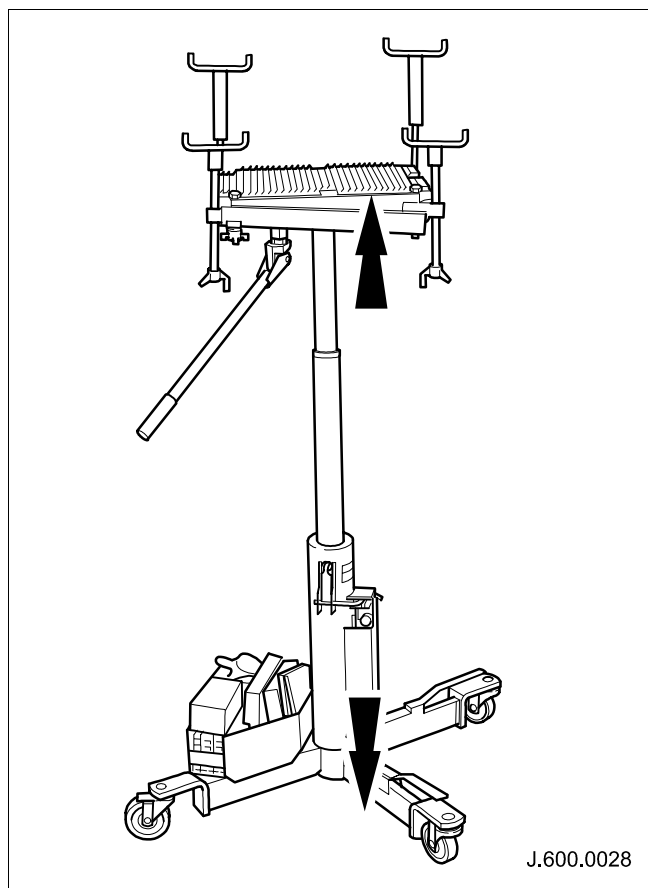

Fig. 1
- 2 Measure from floor to lifting plate (below mat). If the modified collar is fitted, the maximum height is 1705mm, if not fitted maximum height is 1735mm (see Fig. 1)